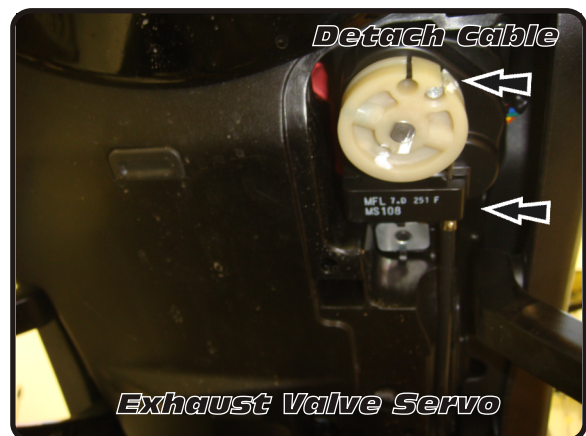

Fig. 2
-Remove small undertail cover to expose exhaust control valve servo. (Fig. 2) Mark servo cam position. Turn servo clockwise to loosen cable tension. Remove cable from cam. Return cam to original position. The cam must be returned to its original position to prevent check engine light. (Note: Cable will be removed with muffler.)